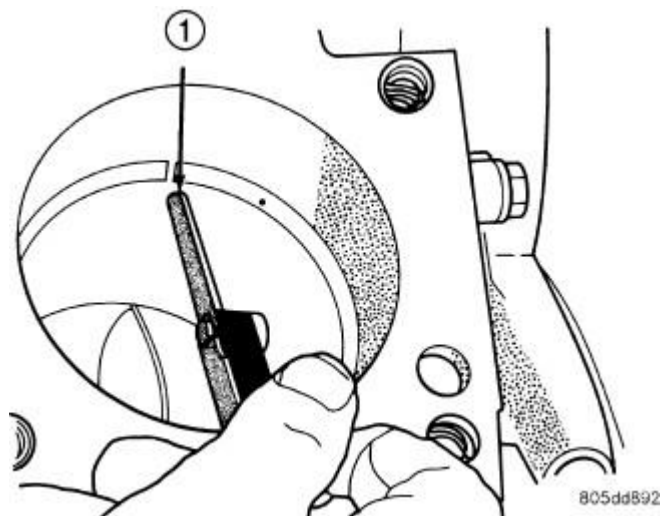

Fig. 166: Ring Gap Measurement
5. Measure the ring side clearance as shown in **Fig. 166**. Make sure the feeler gauge fits snugly between the